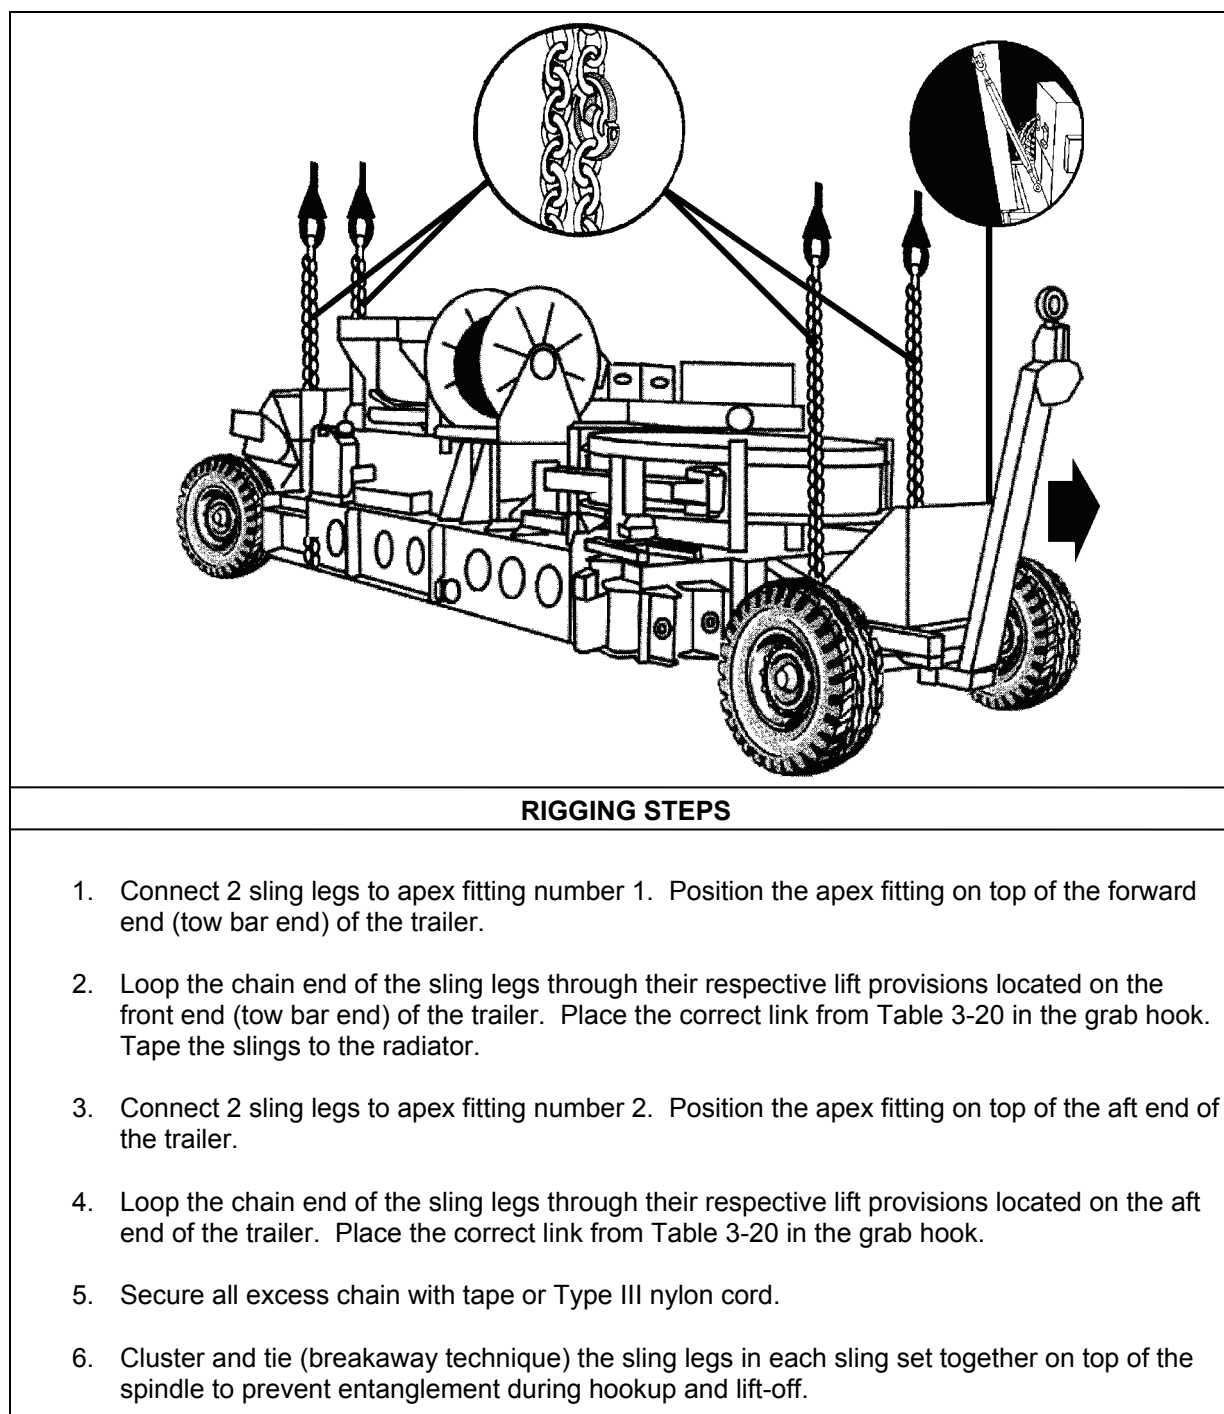

Figure 3-20. M31 Expeditionary Arresting Gear System
- **Rigging.** Rig the load according to the steps in Figure 3-20.